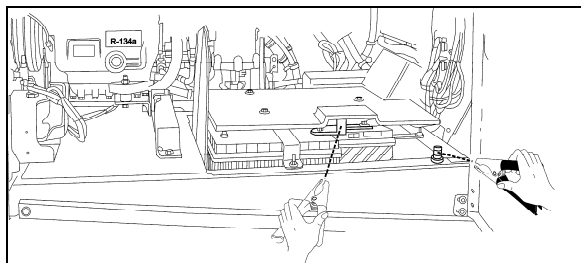

FIGURE 17: JUMP STARTING
Disconnect cables from the battery and attach alligator clamps to the contact lead pad on the battery as shown in figure 17. Connect a 300 ampere load across the terminal for 15 seconds to remove surface charge from the battery.
1. Connect one end of one red jumper cable to the positive (+) terminal of the booster power source and the other end to the positive (+) terminal bar on the battery, located in the engine compartment R.H. side area (refer to fig. 17).
On all XLII MTH, booster terminals are located in the engine compartment on the R.H. side and are accessible through engine compartment R.H. side door (Fig. 17).